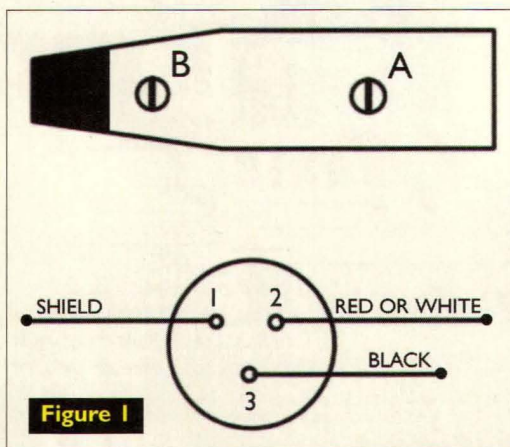

Figure 1
mike plug cover can be a distressing and frustrating event until you realize that, in order to remove the cover, it is necessary to move the screw *in* not *out*. To remove the cover, turn screw (A) counterclockwise. It moves down, out of the way, and the cover will slide off. Be sure to loosen your cable clamping screws (B) until they are almost out. See Figure 1.